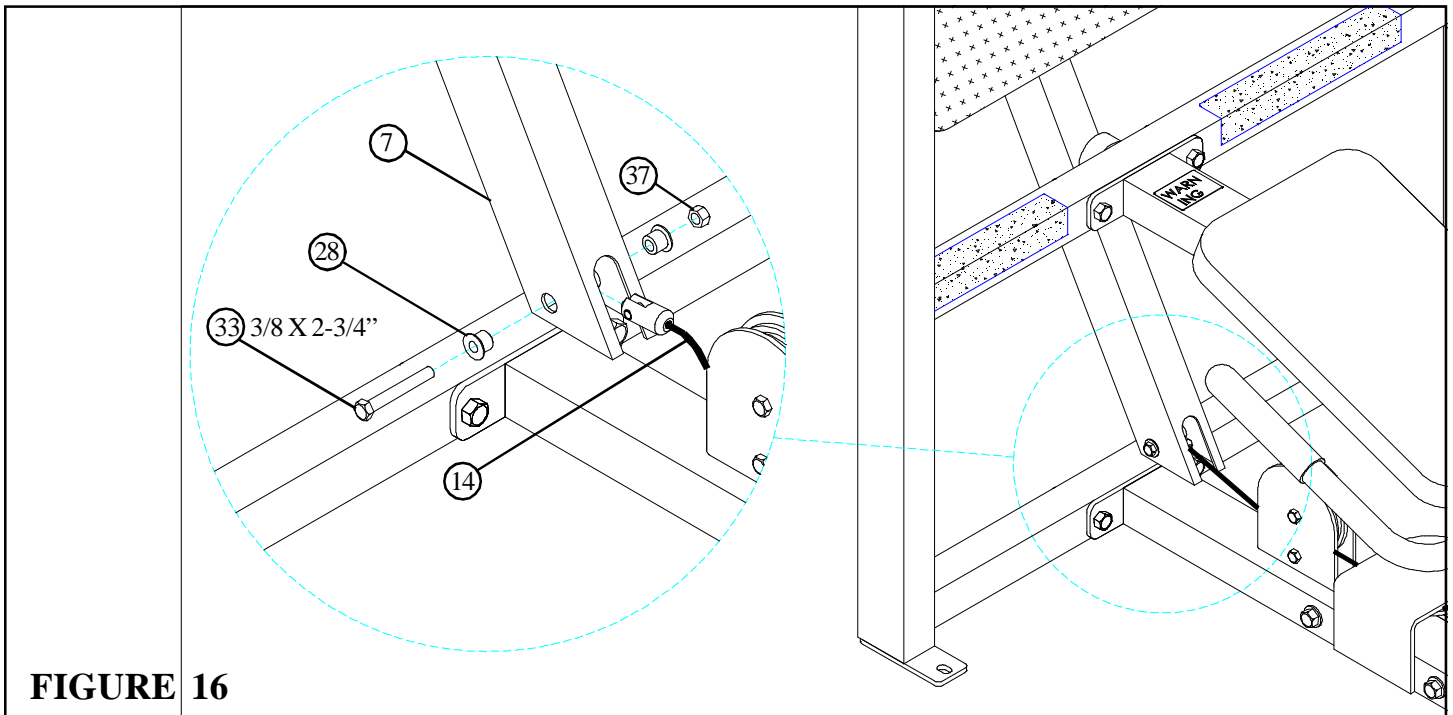

FIGURE 16
- **SECURELY** assemble two 4-1/2" PULLEYS (21) to the brackets on the FRAME (2) using three 3/8 X 2" BOLTS (32), one CABLE RETAINING CLIP (25), and three 3/8" LOCK NUTS (37) as shown in FIGURE 16. (**NOTE: Position the CABLE RETAINING CLIP before tightening.**)
- Make sure the CABLE (14) is routed around all pulleys as shown in FIGURE 16.
- **SECURELY** assemble the swivel end of the CABLE (14) to the PIVOT ARM (7) using one 3/8 X 2-3/4" BOLTS (33), two 3/8" FLANGE SPACERS (28) and one 3/8" LOCK NUT (37) as shown in FIGURE 16.